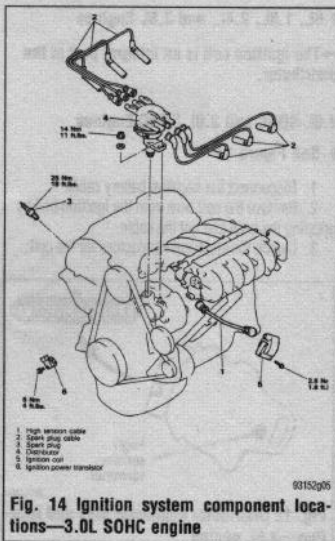

Fig. 14 Ignition system component locations—3.0L SOHC engine
▶ See Figure 14
♦ See Figure 14
♦ See Figures 14, 15, 16, 17, and 18